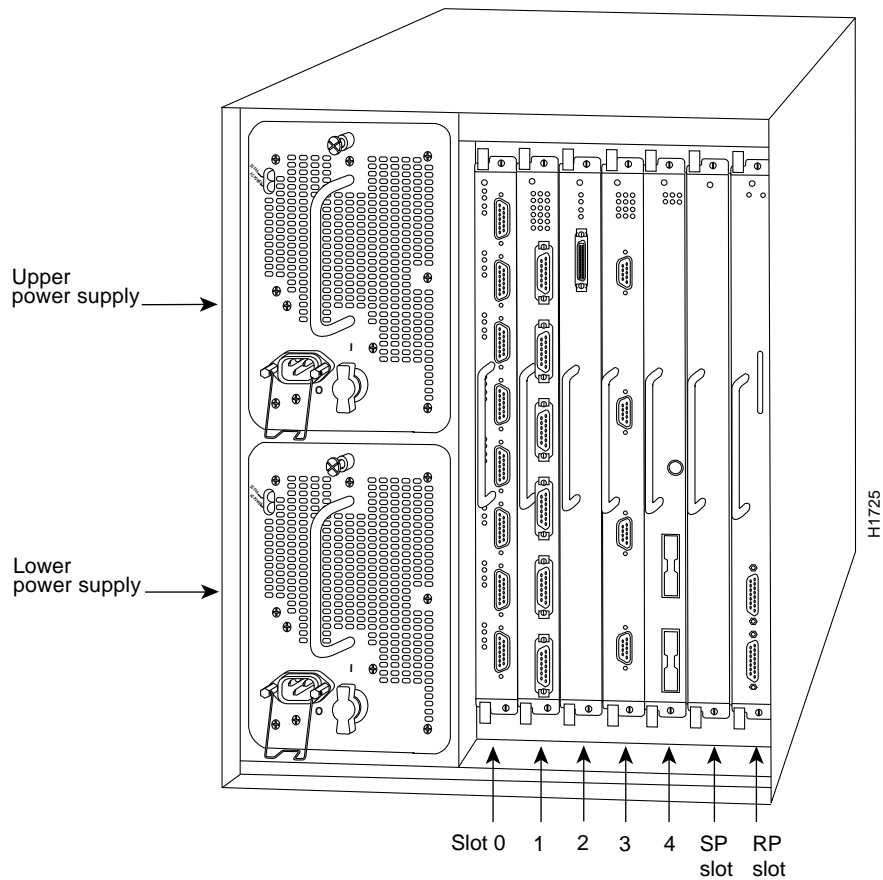
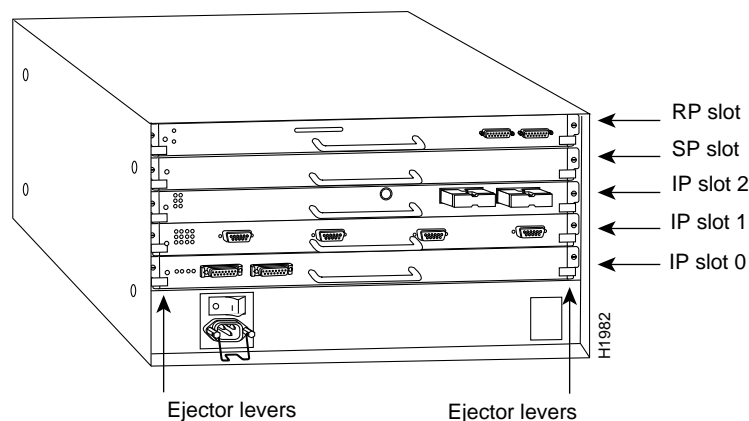
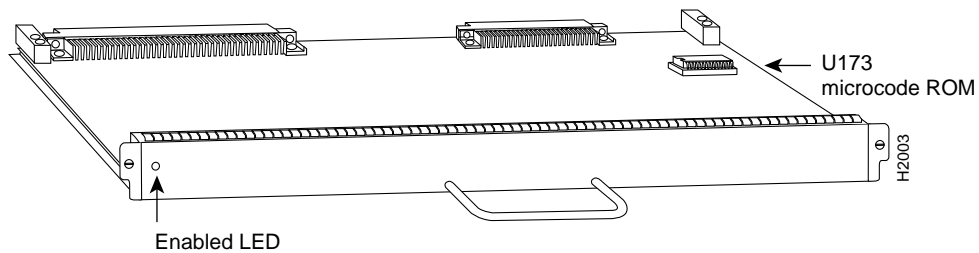

Figure 1 Cisco 7000, IP End
Figure 2 Cisco 7010, IP End
Figure 5 Cisco 7000 Series Switch Processor (SP)
The Cisco 7000 Series comprises the seven-slot Cisco 7000 and the five-slot Cisco 7010. Both models use the same route processor (RP), switch processor (SP), CxBus interface processors (IPs), and arbiter (MAS-7KARB). The Cisco 7000 provides five interface slots and offers a second modular power supply for redundant power. The Cisco 7010 provides three interface slots that support fewer interfaces, but which offer the same performance as the Cisco 7000 at a lower cost. Figure 1 and Figure 2 show the IP end of both models.
The switch processor (SP), shown in Figure 5, communicates with and controls the IPs on the high-speed CxBus. Its function is to decide the destination of a packet and switch it based on that decision. The SP uses a 16-million-instructions-per-second (mips) processor to provide high-speed, autonomous switching and routing. The SP firmware (microcode), which contains board-specific software instructions, resides in a ROM in socket U173. The system supports downloadable microcode, so you will rarely, if ever, need to replace the microcode ROM. (If replacement is necessary, instructions will be provided with the replacement component in an upgrade kit.) The SP is always installed in the backplane SP slot next to the RP. (See Figure 1 and Figure 2.) The single Enabled LED lights to indicate that the SP is enabled for operation.
Caution Always tighten the captive installation screws on the SP. (See Figure 5.) These screws prevent accidental removal, provide proper grounding for the system, and help to ensure that the bus connectors are properly seated in the backplane.
- When installing an SP, use the ejector levers to properly seat the bus connectors in the backplane, then tighten both captive installation screws. (See Figure 5.) These screws prevent accidental removal, provide proper grounding for the system, and help to ensure that the bus connectors are seated in the backplane.
Ensure that all power supplies are turned OFF (O) before installing the SP in the chassis. The RP, SP, and IPs are all keyed for installation only in the correct slot. (See “Cisco 7000 Series Overview,” page 2.) Install the SP in the *SP* slot (which is next to the RP slot as shown in Figure 1 and Figure 2) as follows:
Caution You must install the SP in the slot labeled *SP*, which is seen on the rear of the chassis. (See Figure 1 and Figure 2.) The slots are keyed for correct installation. Forcing the SP into a different slot can damage the backplane and the SP carrier.